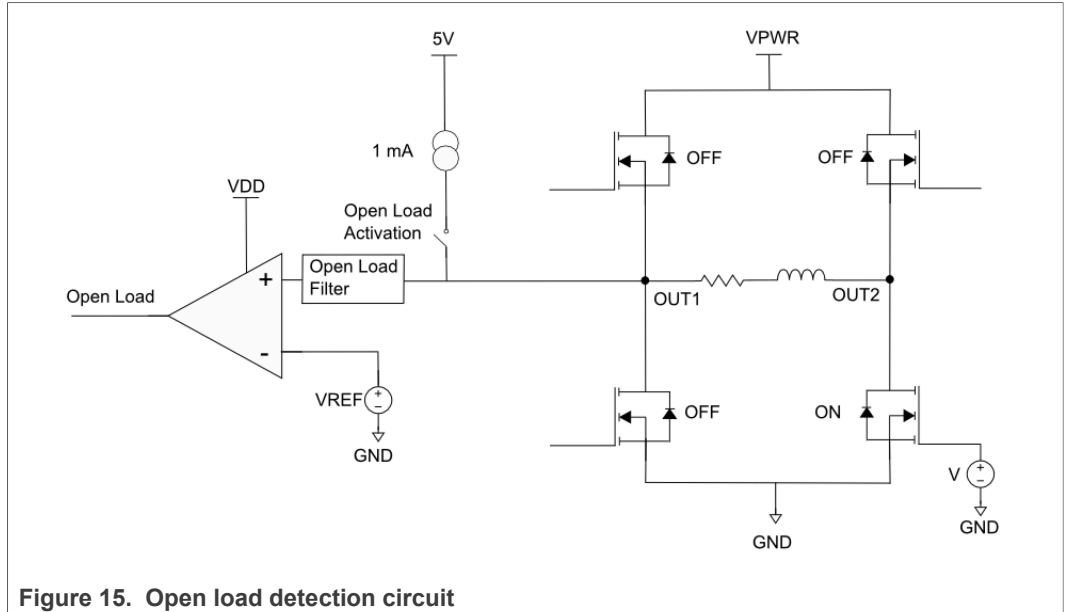

Figure 15. Open load detection circuit
2. In second stage, the circuit turns off the OUT1 low-side FET and applies an internal pull-up of 1.0 mA on OUT1 while maintaining the OUT2 low-side driver on. If the voltage on OUT1 is greater than the open load threshold after the defined filter time, an open load fault is recorded. See Figure 15 for more details. The OUT1 and OUT2 are restored to the commanded configuration after the test results are latched into the fault buffer.